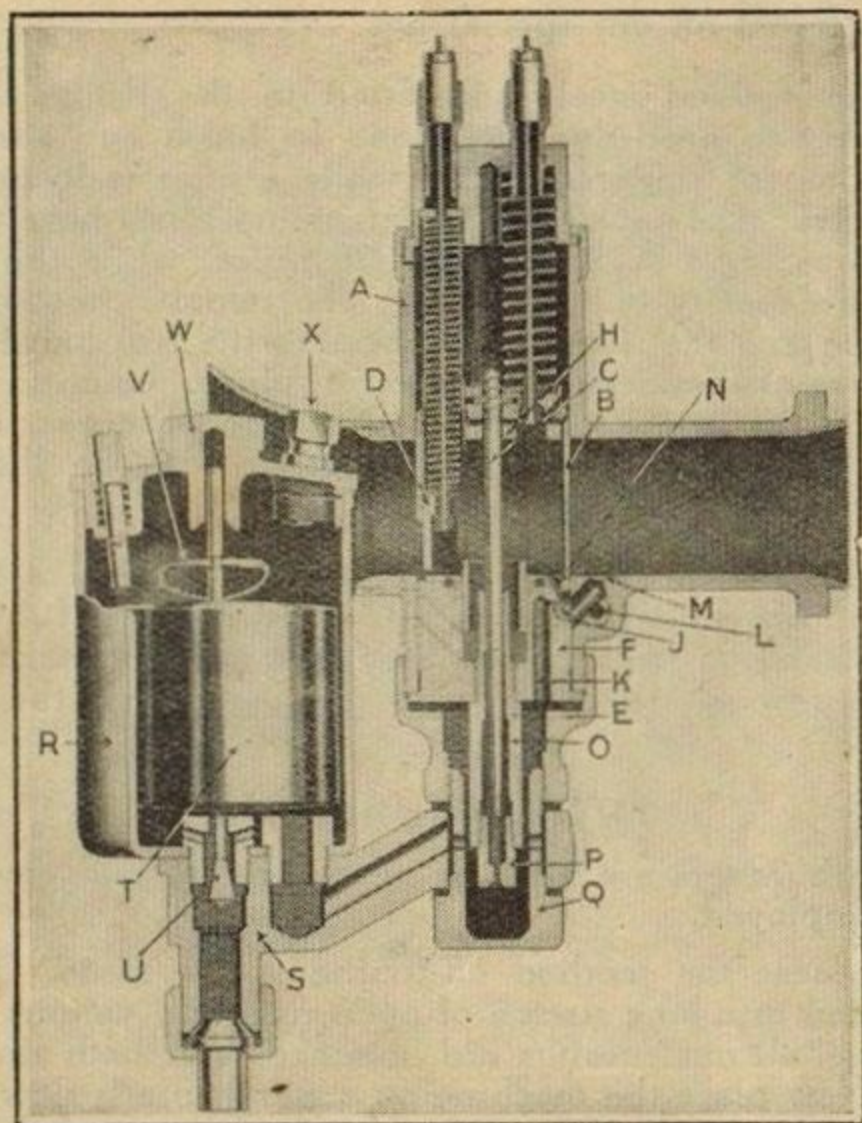

FIG. 18. THE CARBURETTER.
The method of tuning the intermediate mixture is by raising or lowering a taper needle (C, Fig. 18). This is secured by means of a hair pin spring which engages with one of four grooves and secures the needle to the throttle valve (B). Raising the needle makes the intermediate mixture richer and vice-versa. The usual setting is with the hairpin spring in the second groove from the top of the needle.
Take off the petrol pipe, remove carburetter from cylinder head, undo the small nut beneath the mixing chamber (Q, Fig. 18) and take off the float chamber. The jet (P) may then be removed for